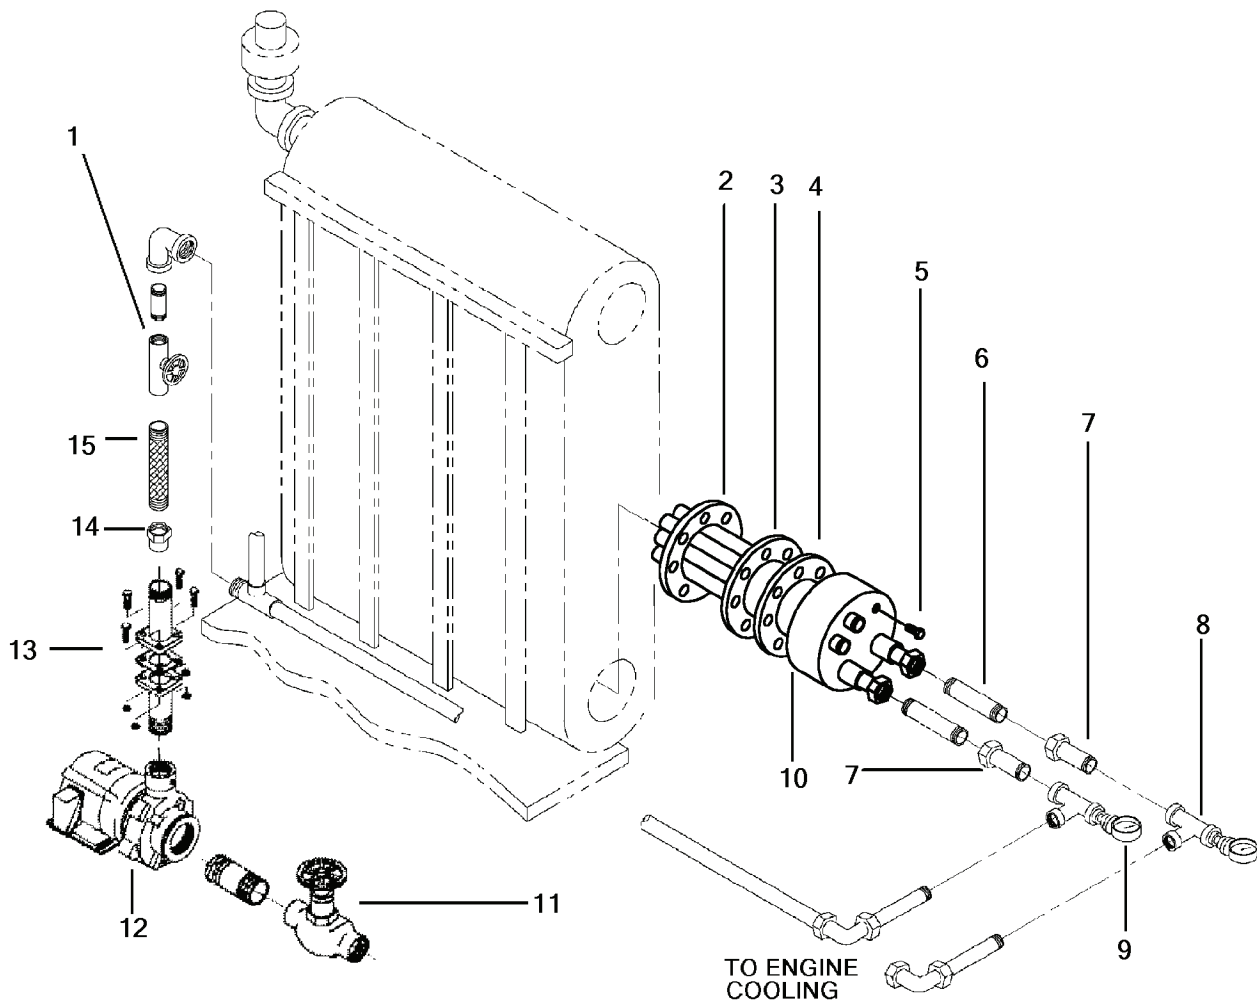

Figure 2-10. Jacket Water Piping Group.
- a. Removal of the jacket water piping group (Figure 2-10), proceed as follows:
- (2) Drain the jacket water pump (12, Figure 2-10) and disconnect the pump outlet flange (13).
- (3) Place a bucket under the Evaporator and drain. Drain the seawater reservoir by removing drain plug from under Evaporator.
- (4) Place a bucket under union fittings (7) to catch remaining jacket water.
- (5) Loosen the fittings to allow piping to drain in container.
- (6) Remove union fittings (7) and disconnect associated piping.
- (7) Mark the position of the bonnet in the WHE to ensure original position installation or correct new bundle installation.
- (8) Remove the eight bolts (5) from bonnet (10), and remove bonnet and rib gasket (4).
- b. Removal procedures for the seawater heater bundle supply thermometer (9) and discharge thermometer (8) are the same:
- (1) Remove the thermometers by unscrewing from the elbow pipe connections.
- c. Removal of the braided pipe connector (15) and associated piping can be accomplished after completing procedures a.1 through a.6.
Repair is by replacement of the gaskets (2 or 4), the seawater heater bundle (3), seawater heater supply (9) and discharge (8) thermometers and damaged or worn associated piping (Figure 2-10):
- a. To repair the seawater heater bundle (3):
- (1) Remove seawater heater bundle as described in removal procedures a.
- (2) Install new seawater heater bundle as described in replacement procedures.
- (1) Remove applicable associated pipe fittings as describe in removal procedure a and c.
- (2) Install new applicable pipe fitting as described in replacement procedures.
- a. Replace the braided pipe connector (15) and associated piping.
- b. To replace the jacket water piping group (Figure 2-10), proceed as follows:
- (1) Gently install seawater heater bundle (3) and ring gasket (2).
- (2) Replace the rib gasket (4) and bonnet (10), securing with eight bolts (5).
- (3) Reconnect all associated piping and union fittings (7).
- c. Reconnect the pump (12) and discharge flange (13).
- d. Replace the seawater heater supply (9) and discharge (8) thermometers.